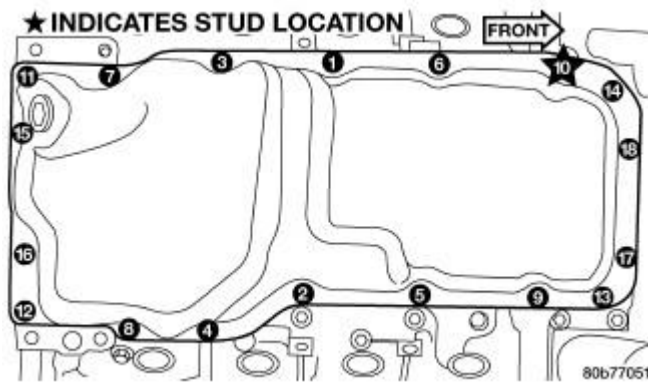

Fig. 188: Oil Pan Tightening Sequence
3. Position the oil pan and install the mounting bolts. Tighten the mounting bolts to 15 N.m (11 ft. lbs.) in the sequence shown in illustration . See **Fig. 188**.